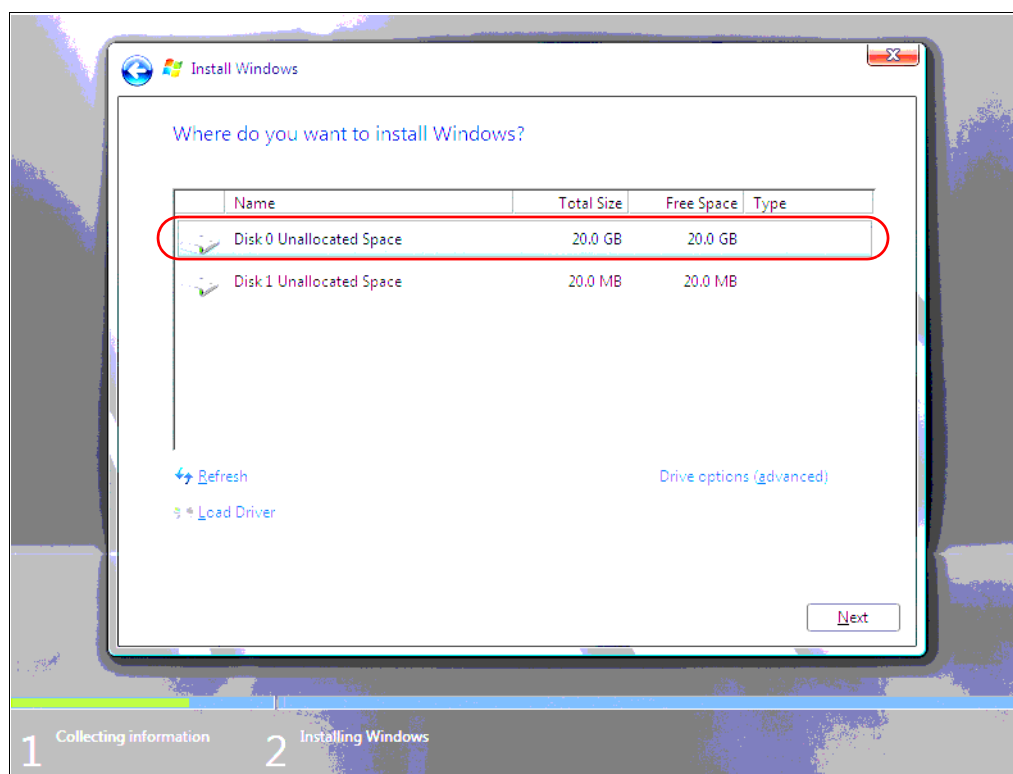

Figure 20-39 Installation disk selection
5. When the installation starts, you will be presented with the window shown in Figure 20-39. It allows you to select the disk to be used for the installation. In our example, the 20 GB boot-LUN created in the DS3200 System Storage subsystem is listed. You have the option to load device drivers for external devices.